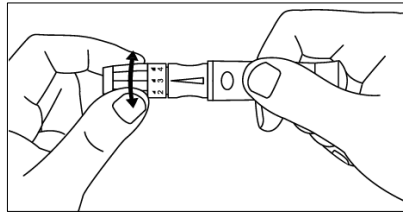

Fig 5.33
Step 5: Adjust the puncture depth by rotating the lancing device cover. There are a total of 6 puncture depth settings. To reduce discomfort, use the lowest setting that still produces an adequate drop of blood. (Ref Fig 5.33)